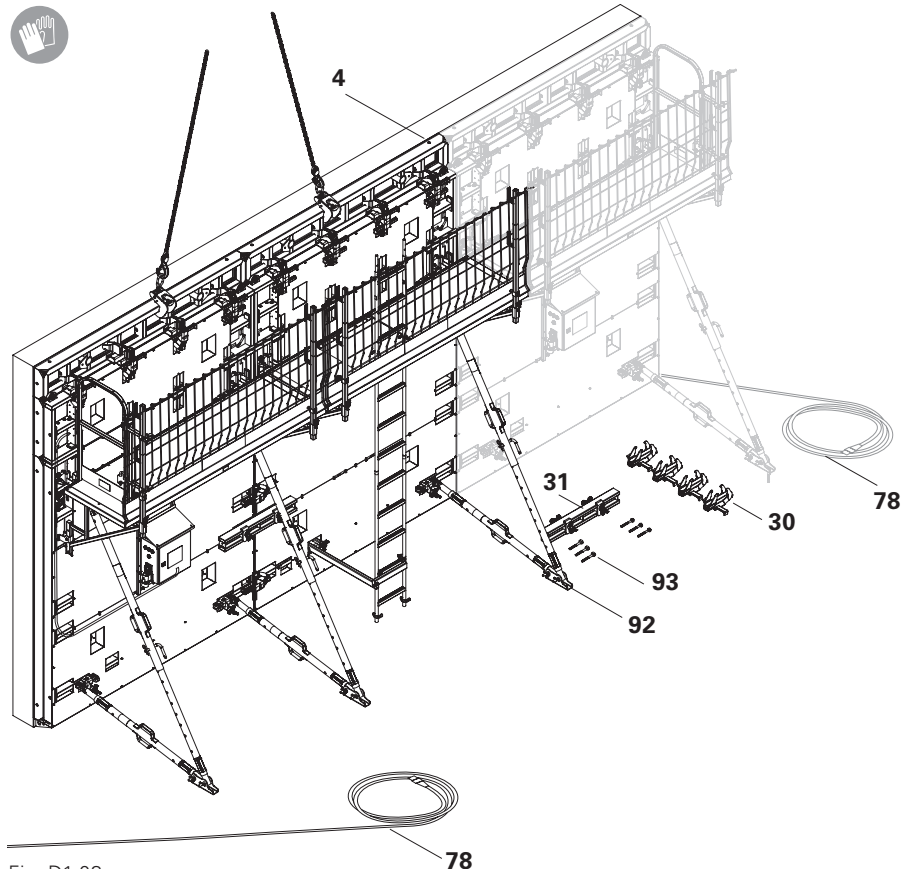

Fig. D1.03
1. Disconnect supply line from the construction site main cabinet (78) on the switch cabinet.
2. If necessary, uncouple connecting cable (76) on both sides of the lifting units. Close sockets with protective caps, insert couplings of the connecting cables against each other and place them in a secure position.
4. Attach Combi Lifting Gear to the load-bearing point of the Crane Eye (10.2) or Lifting Hook (4).
5. Remove Alignment Couplers BFD (30) and Compensation Walers MAR 85 (31) from the lifting units. (Fig. D1.03)
6. Remove anchor bolts (93) from the Base Plates.
9. Mount Base Plate (92), e.g. with PERI Anchor Bolt 14/20 x 130 (93).